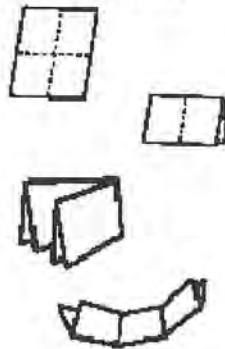

Fig. 11
5. Measure the sheet from the edge to the center of the first fold score mark and set the appropriate fold table paper stop to the measurement. (See Figure 11.) Set the second fold table paper stop to the measured distance to the score mark.